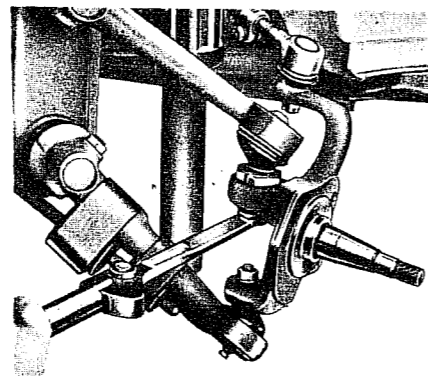

Fig. H.12. Tightening the upper ball joint stud nut.
1. Install the steering knuckle. The upper torsion arm can be raised with a jack if necessary. Tighten the nuts at upper and lower ball joints. (ALWAYS use new self locking nuts) (Fig. H 12).